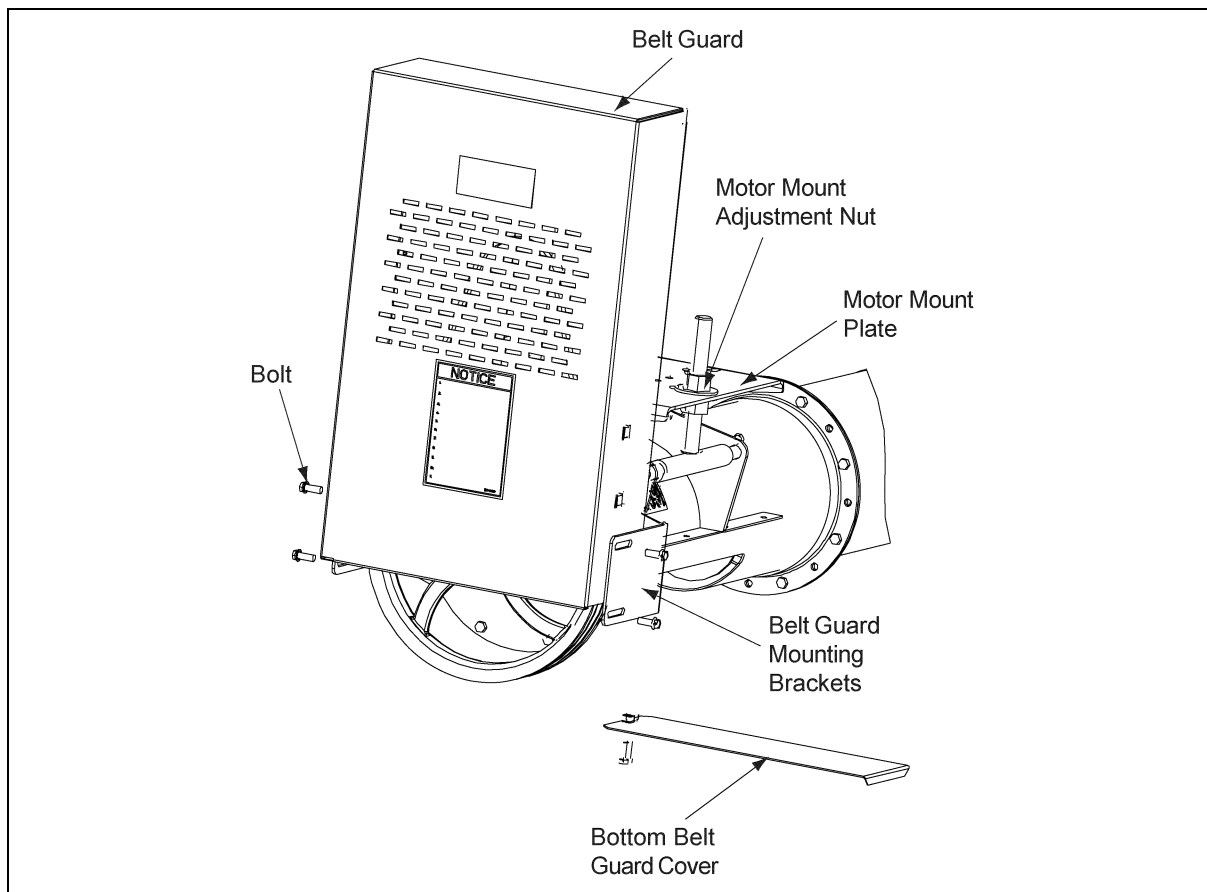

Figure 4K
- C. Align the motor shaft and the Flight Drive Shaft in the Belt Guard's slot, making sure that the Belt Guard DOES NOT contact either pulley, and tighten down the Belt Guard Mounting Brackets to the Bearing Plate. (See Figure 4K).